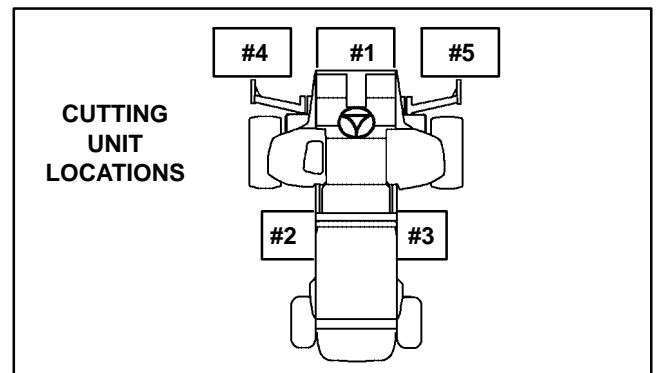

Figure 39
- A. For pump section (P1), mow manifold relief is tested at the forward direction supply hose (front hose) to the cutting unit #4 motor (Fig. 39).
- B. For pump section (P2), mow manifold relief is tested at the forward direction supply hose (front hose) to the cutting unit #2 motor (Fig. 39).